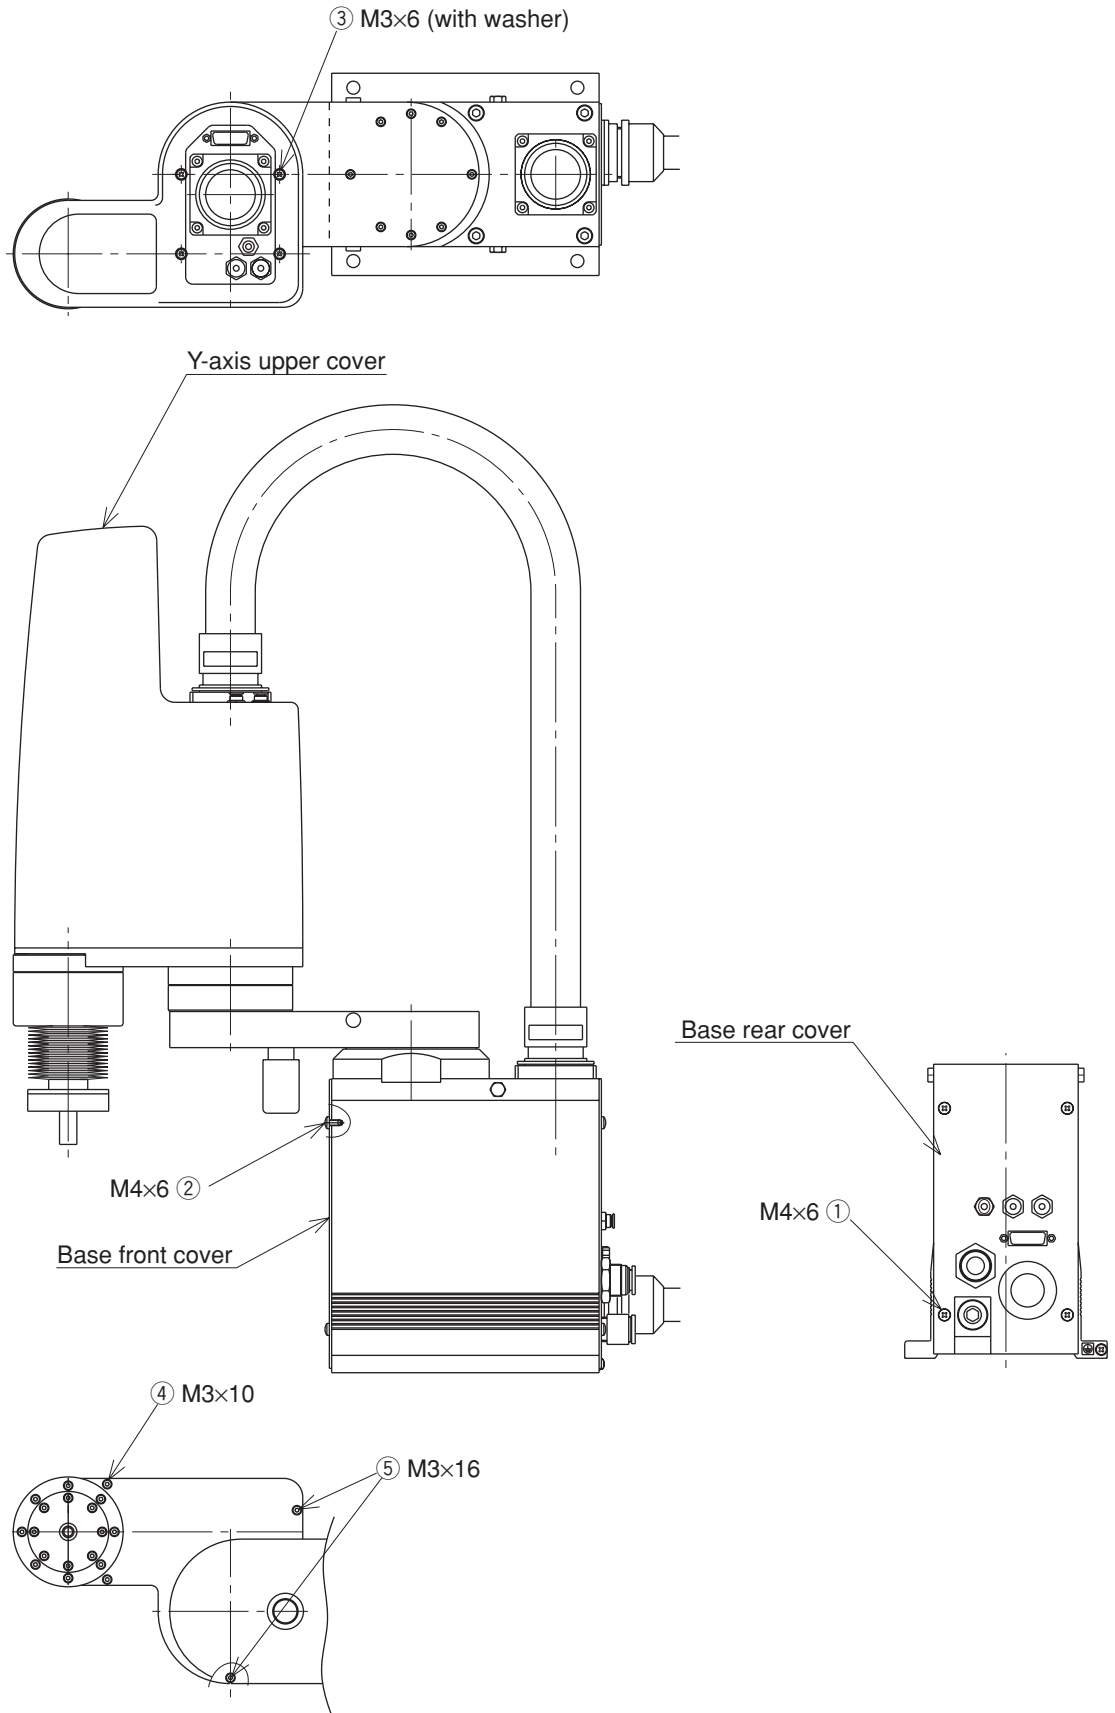
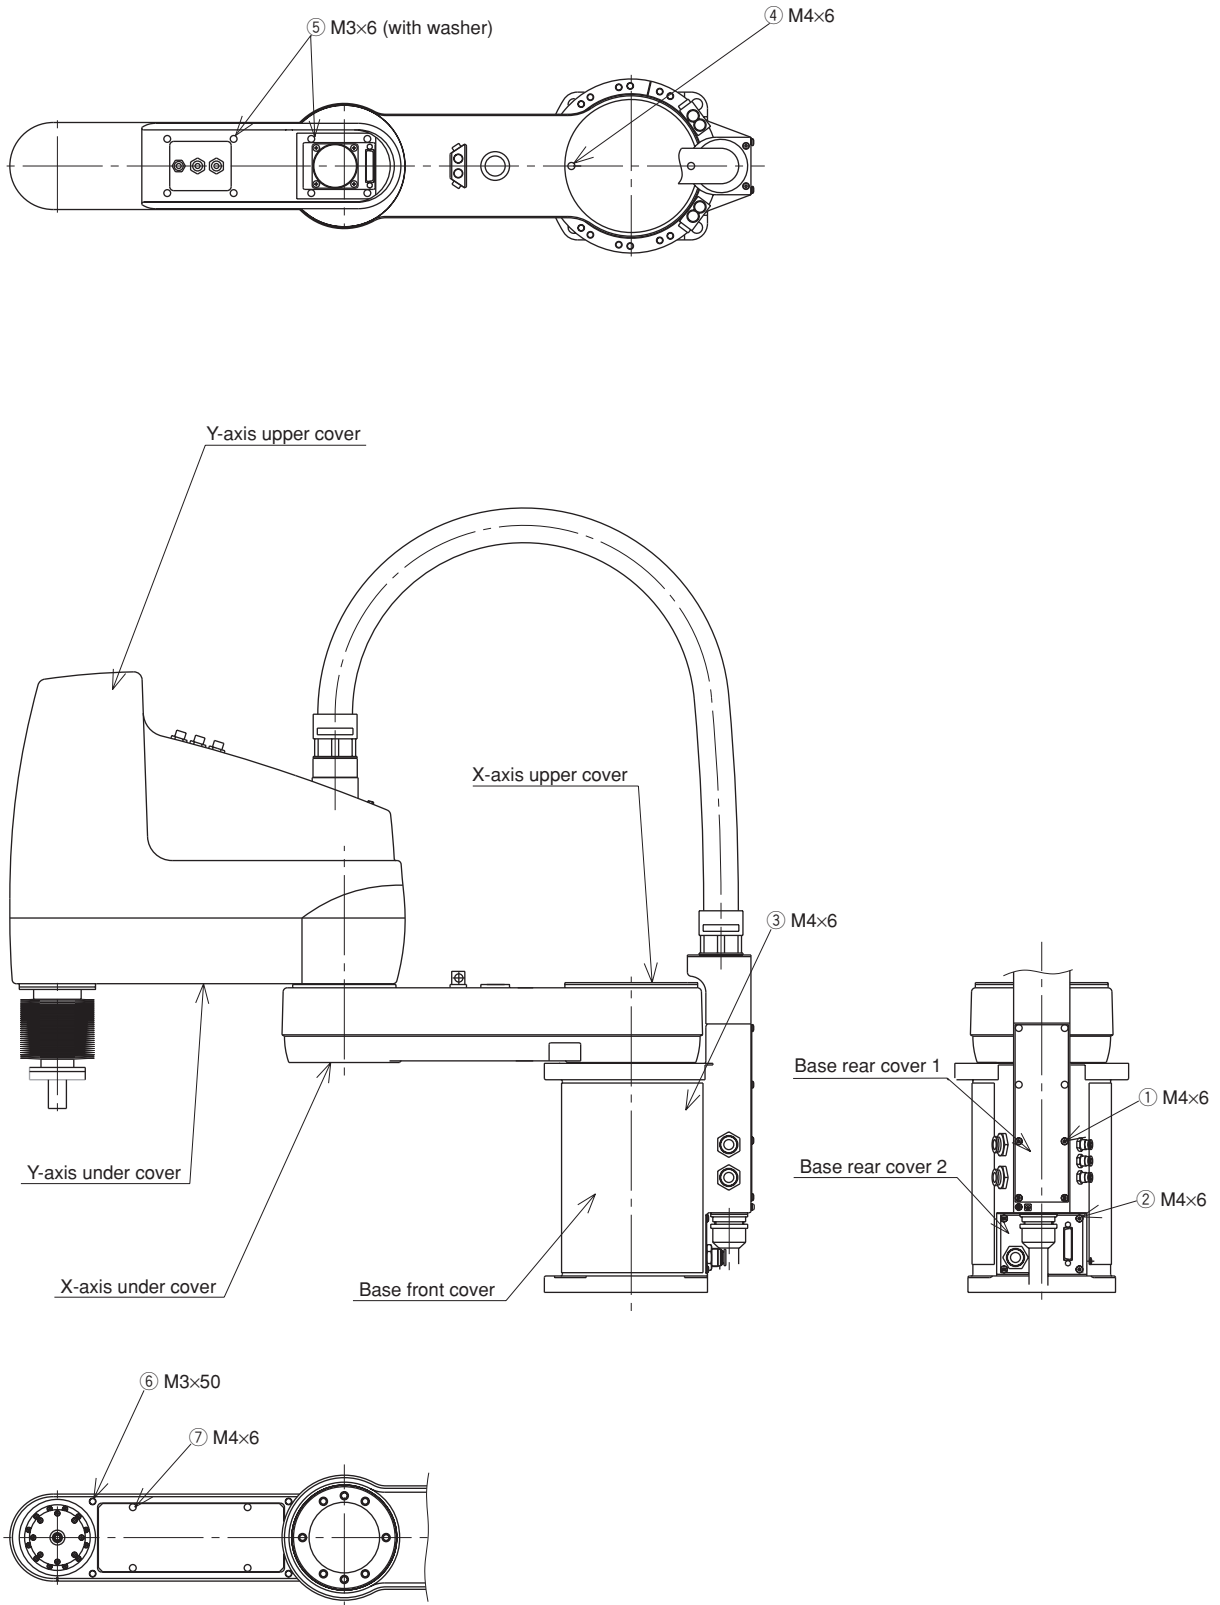

Fig. 4-7
Fig. 4-9
- 5) Remove the covers while referring to Fig. 4-7 to Fig. 4-9.
Table 4-2 R6YXCH250, R6YXCH350, R6YXCH400 (See Fig. 4-7)
Table 4-4 R6YXC700, R6YXC800, R6YXC1000 (See Fig. 4-9)